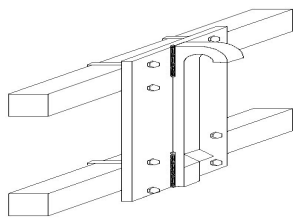

Fig 1.Welded Mounting Bracket
**IMPORTANT:** If the AG Dispenser mounting brackets are to be welded to the rear frame of the machine, it is absolutely vital that a professional welder carries out all the welding. The material to be welded must be pre-treated and the final welds checked carefully. (See Fig.1.)